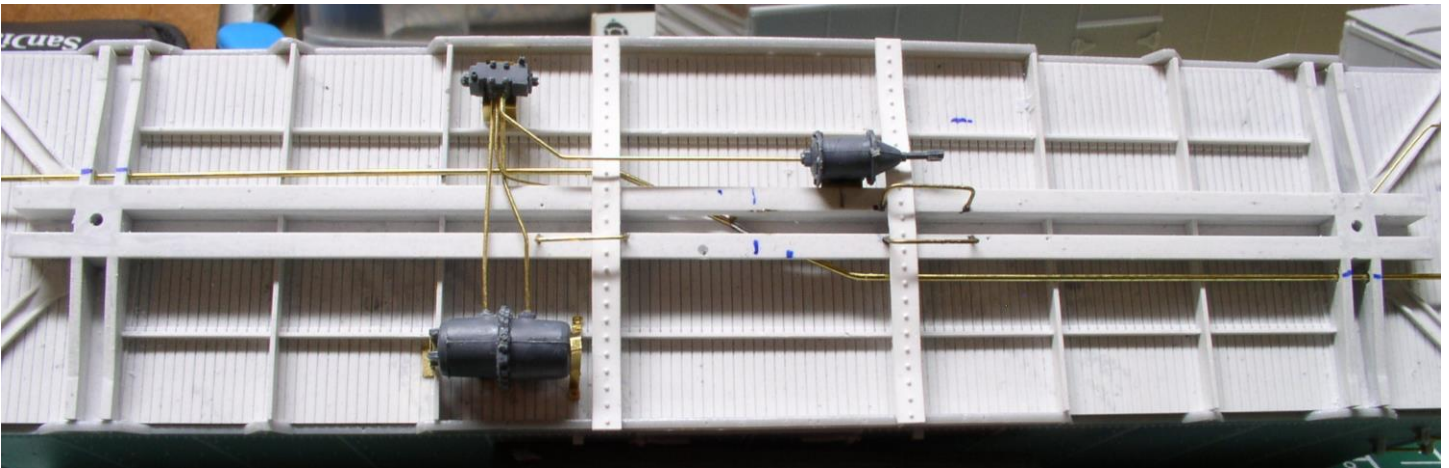

Figure U16
- Using the dimples as guides, drill holes in the Bolsters on the underframe using a  $1/16$ " drill bit. This will allow the self-tapping screw to make threads. Try one of the truck screws in each hole. See Figure U16